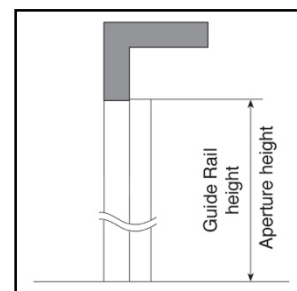

Fig 6
a. Where headroom of 205mm / 300mm or more is available guide rail length equals aperture height as shown in **(Fig6)**.